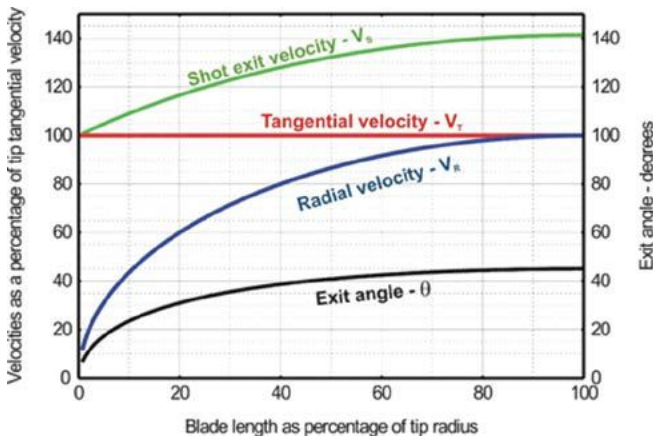

Fig.15. Effects of blade/radius ratio on induced velocities and exit angle.
The ratio of blade length,  $L$ , to wheel radius,  $R$ , can be termed the “blade/radius aspect ratio”. Commercial accelerator-fed machines have wheels with aspect ratios within a range of 30 to 70%. The ratio for a particular machine/wheel affects both the shot's exit velocity,  $V_s$ , and the exit angle,  $\theta$ . Fig.15 illustrates the effects of aspect ratio on shot velocity components and exit angle. The curves were derived by plotting equation (8) against aspect ratio. Within an aspect ratio range of 30 to 70%, the thrown shot velocity is predicted to vary from about 123 to 138% of the tangential velocity. The corresponding exit angle range is from 36 to 44°.